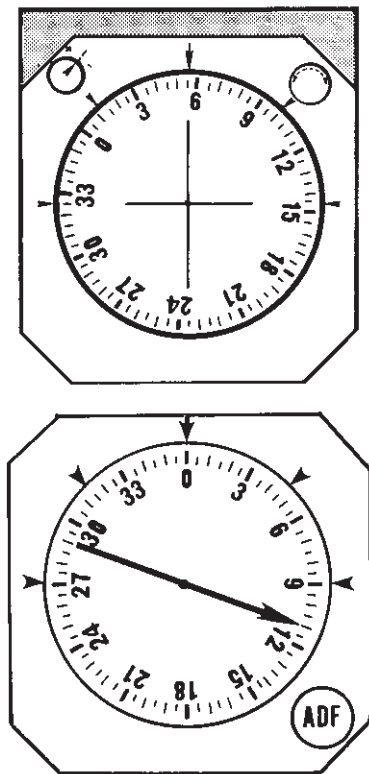

Figure 28-32 Questions 28 to 30.
Refer to figure 28-32 for questions 28 to 30.
28. You receive the ATC clearance: “cleared to the Gaffa NDB, hold southwest on the two three zero degree bearing.” At station passage, you note the indications as shown in figure 28-32.
29. You receive this ATC clearance: “cleared to the Gaffa NDB, hold northeast on the zero four zero degree bearing, left turns.” At station passage, you note the indications as shown in figure 28-32.
30. You receive this ATC clearance: “cleared to the Gaffa NDB, hold southeast on the one four zero degree bearing, left turns.” At station passage, you note the indications as shown in figure 28-32.